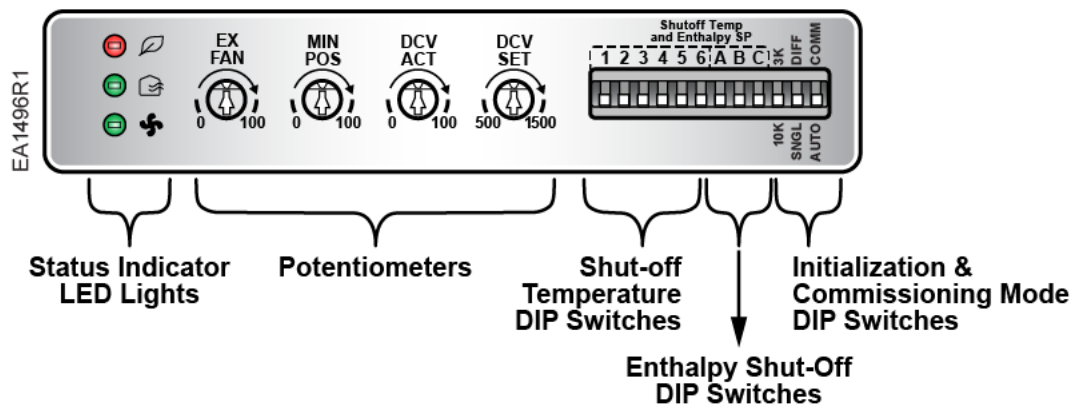

Figure 7. Economizer Control Adjustments.
2. Use the DIP switch to select a 3K or 10K sensor (see Figure 7).
3. Use the DIP switch to select Single (**SNGL**) or Differential (**DIFF**) mode (see Figure 7).
Move the DIP switch on the bottom of the controller to the **COMM** position (see Figure 7) to enter the Commissioning mode. When the Free Cooling LED and DCV LED blink red, this indicates that the controller is in the Commissioning mode. CC1 and CC2 are energized in the Commissioning mode, and the exhaust fan responds to the outside air damper.
The damper will be open and will allow for free cooling below the temperature shut-off setpoint selected from one of the six DIP switches located on the bottom right corner of the controller cover (see Figure 7).
- Set the DIP switch to **SNGL** (single) mode. See Figure 7.
- Set the DIP switch to **DIFF** (Differential) mode. See Figure 7.
- Set the DIP switch to **SNGL** (Single) mode. See Figure 7.
The controller will modulate the outside air damper based on the CO2 level through the ppm value selected by the DCV SET potentiometer between the range of 500 and 1500 ppm, on the controller, as shown in Figure 7.
The exhaust fan shut-off point is selected by setting the **EX FAN** potentiometer to the desired level. See Figure 7.